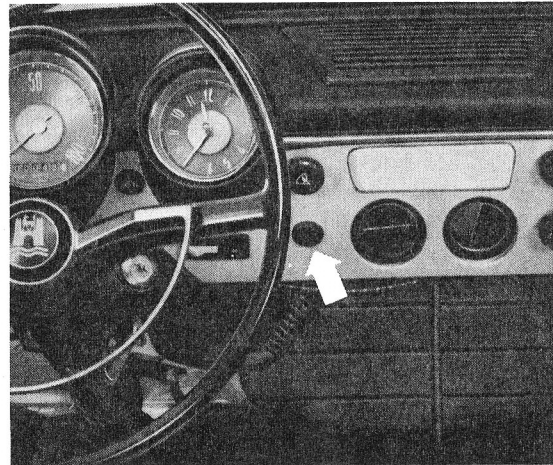

Fig. 17
- 26 – Install fuel filter (Fig. 17).
28 – Secure switch in one of the holes provided (Fig. 17).